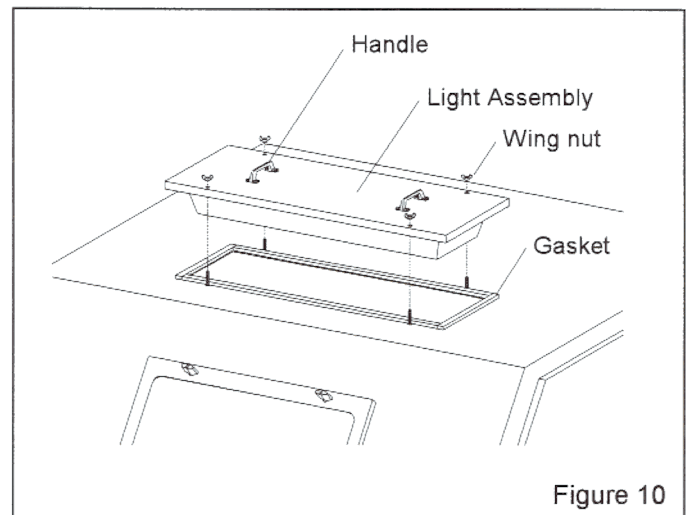

Figure 10
7.6.2.1 Remove the four holding wing nuts, and use the handles to lift the fixture off the cabinet, as shown in Figure 10.
strip gasket to the top edge of the light opening, as shown in Figure 10. Press the gasket tightly to bond. Repeat the process for each side, compressing the ends to seal.